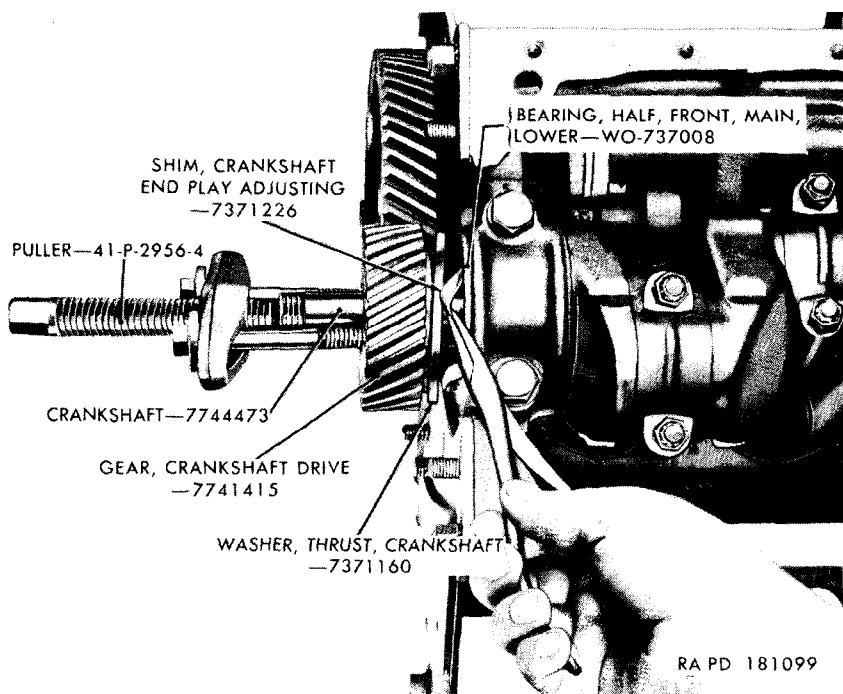

Figure 88. Removing crankshaft end play adjusting shim.
b. If the clearance is less than 0.004-inch, carefully gage the actual amount of clearance. Remove the $1\frac{1}{16}$ -inch nut, the fan and generator drive pulley, the crankshaft oil slinger, and the crankshaft drive gear spacer. Use puller 41-P-2956-4 (fig. 19) to pull the crankshaft drive gear forward on the shaft about one inch. Reach into the space between the crankshaft thrust washer (fig. 88) and crankshaft front bearing with a pair of thin-nose pliers and grasp one of the crankshaft end play adjusting shims. Jerk the shim to tear it and release it from the crankshaft. If the removal of additional shims is necessary, they may be removed in the same manner.